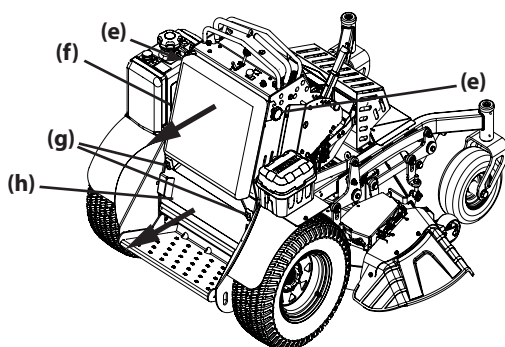

Figure 2
- a. Loosen the two star knobs (e) securing the leg pad (f) to the mower. See Figure 2.